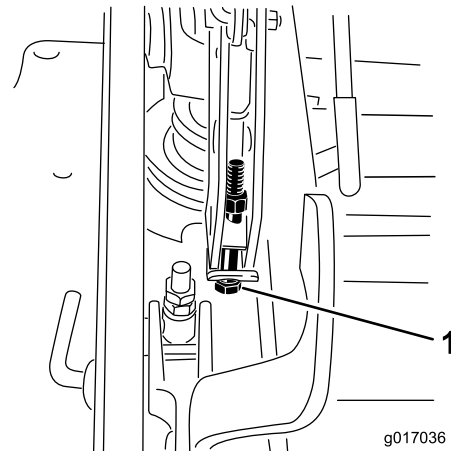

Figure 94
14. If the deck is too low, tighten the single point adjustment bolt by rotating it clockwise. If the deck is too high, loosen the single point adjustment bolt by rotating it counterclockwise (Figure 94).